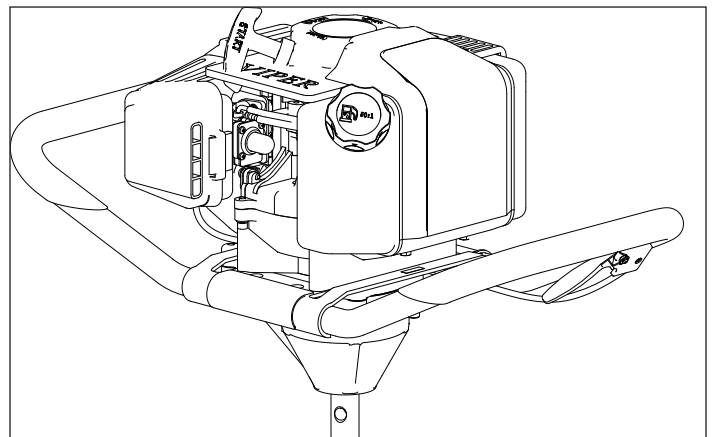

Figure 6
6. Replace the air filter cover so that it fully snaps into place and is secured by the latch tabs. Check that the cover is securely attached by pulling slightly on the cover. If the cover doesn't move when pulled, it is secure. **SEE FIGURE 6.**